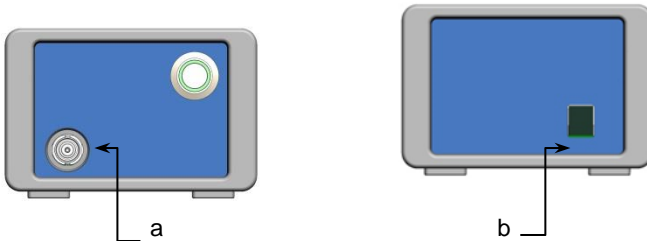
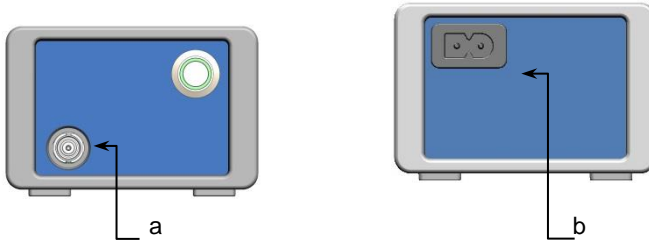

Figure 2: Connection options on the Docon SealM
Figure 3: Connection options on the Docon Seal
The BNC socket (*Figure 2 and Figure 3, a*) serves to connect the BNC cable and the associated original Docon Seal Handle.
3.5.2 Charger socket Docon SealM (*Figure 2, b*)
3.5.3 Mains connection Docon Seal (*Figure 3, c*)
The Docon Seal is connected to the mains via the mains connection socket (*Figure 3, c*) using the original mains connection cable.